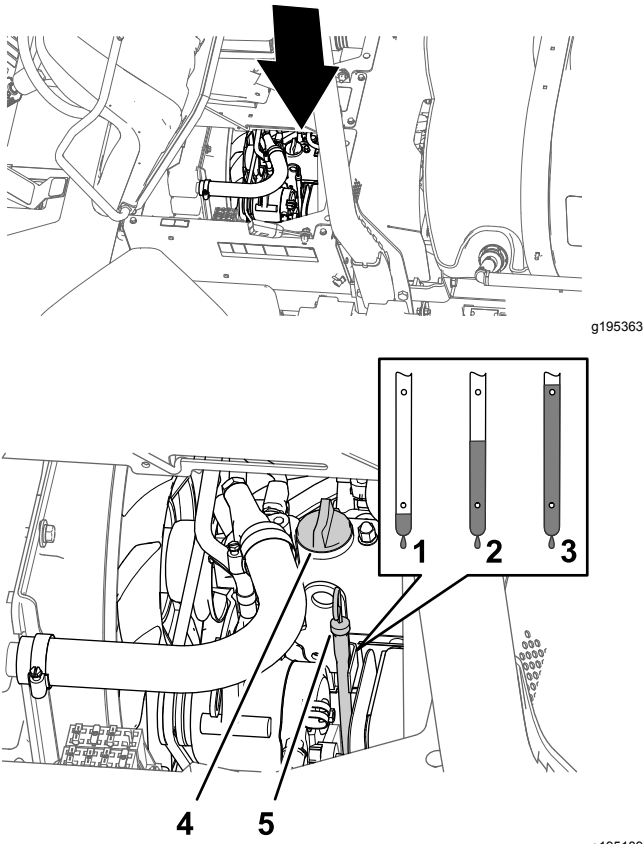

Figure 74
2. Remove the dipstick, located under the passenger seat, and wipe it with a clean rag (Figure 74).
3. If the oil level is low, remove the filler cap from the valve cover (Figure 74) and pour oil into the filler neck until the oil level is up to the Full mark on the dipstick.
4. Install the oil-filler cap (Figure 74).
5. Install the dipstick firmly in place (Figure 74).